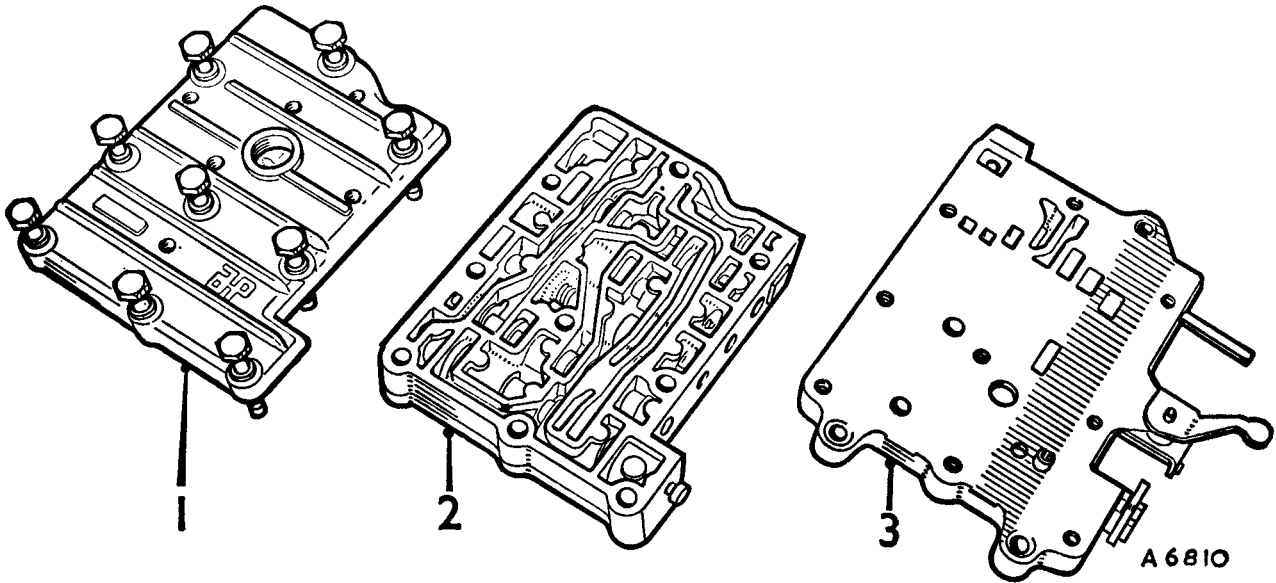

Fig. Fa.25
9. Remove the valve block assembly as individual components, i.e. the lid, valve chest, and finally (if necessary) the pipe chest (Fig. Fa.25).